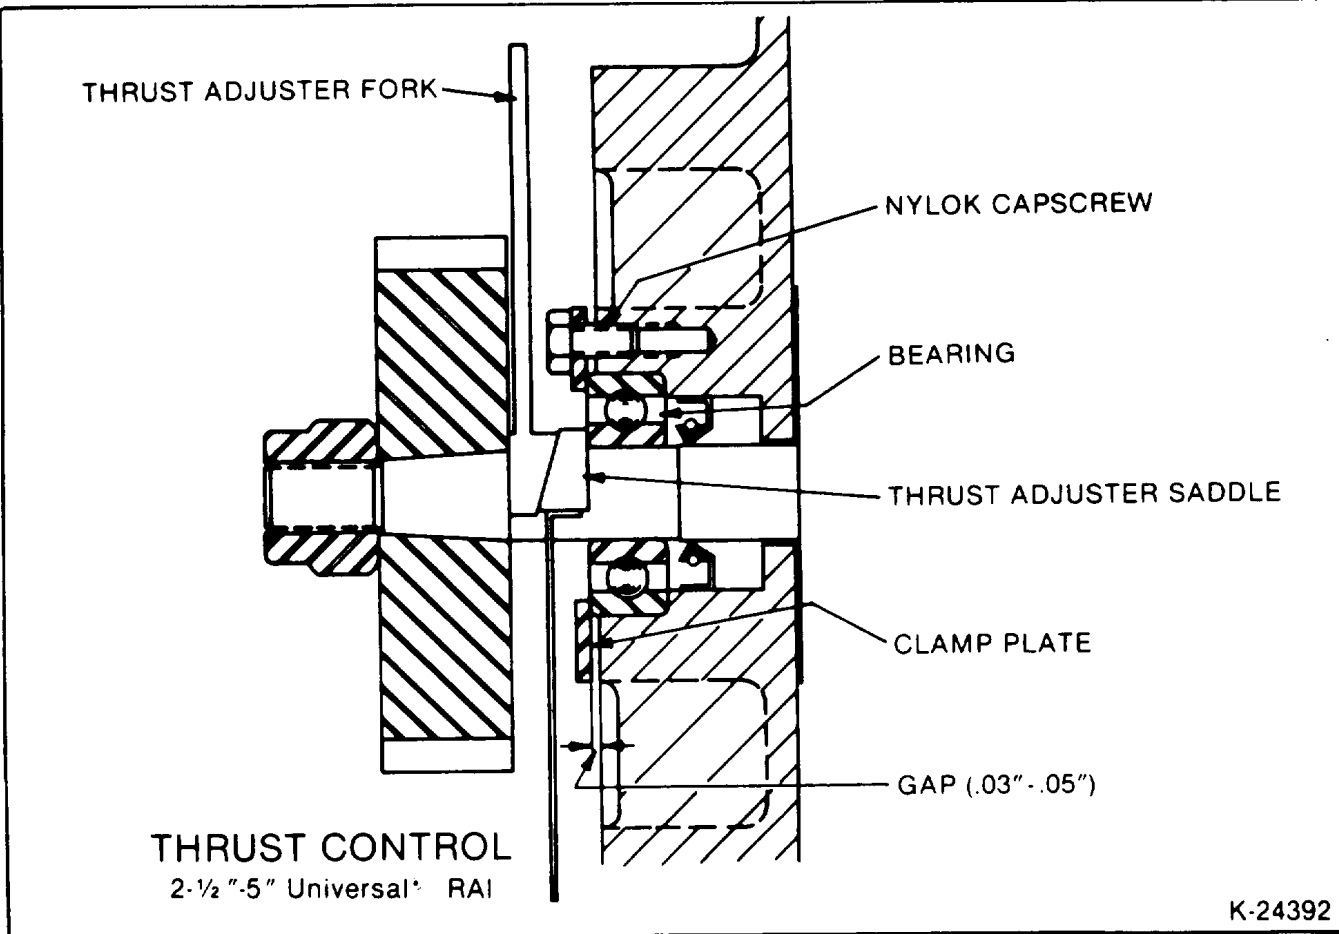
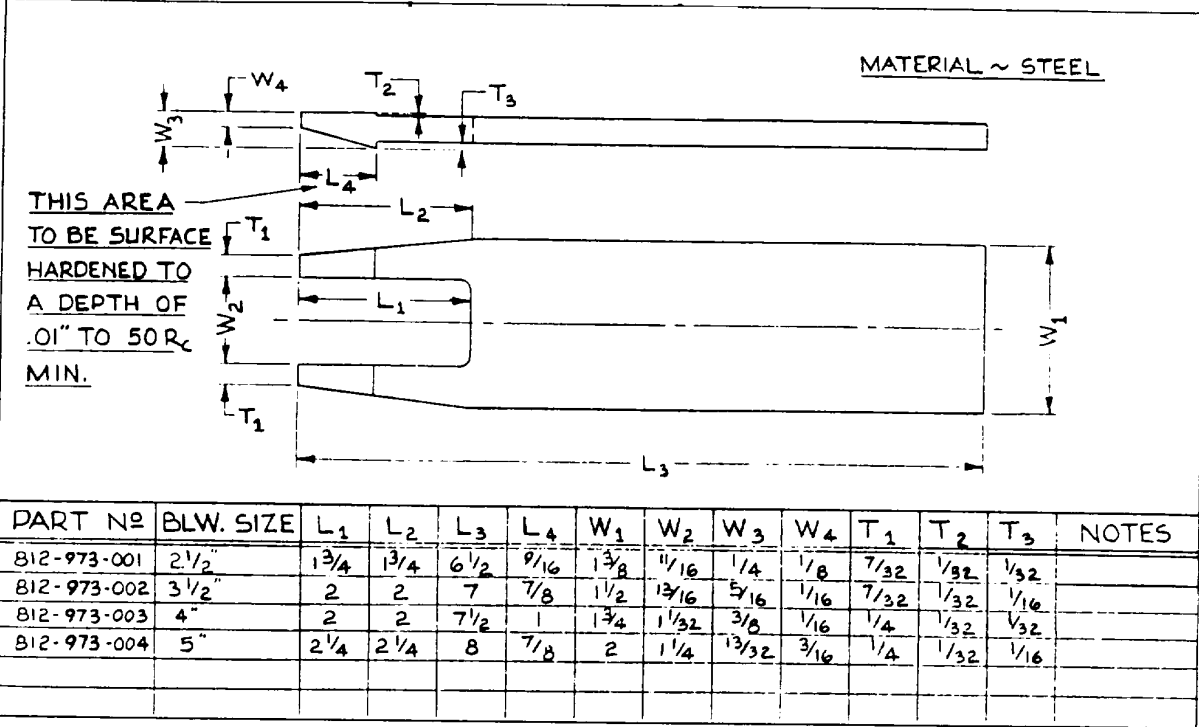
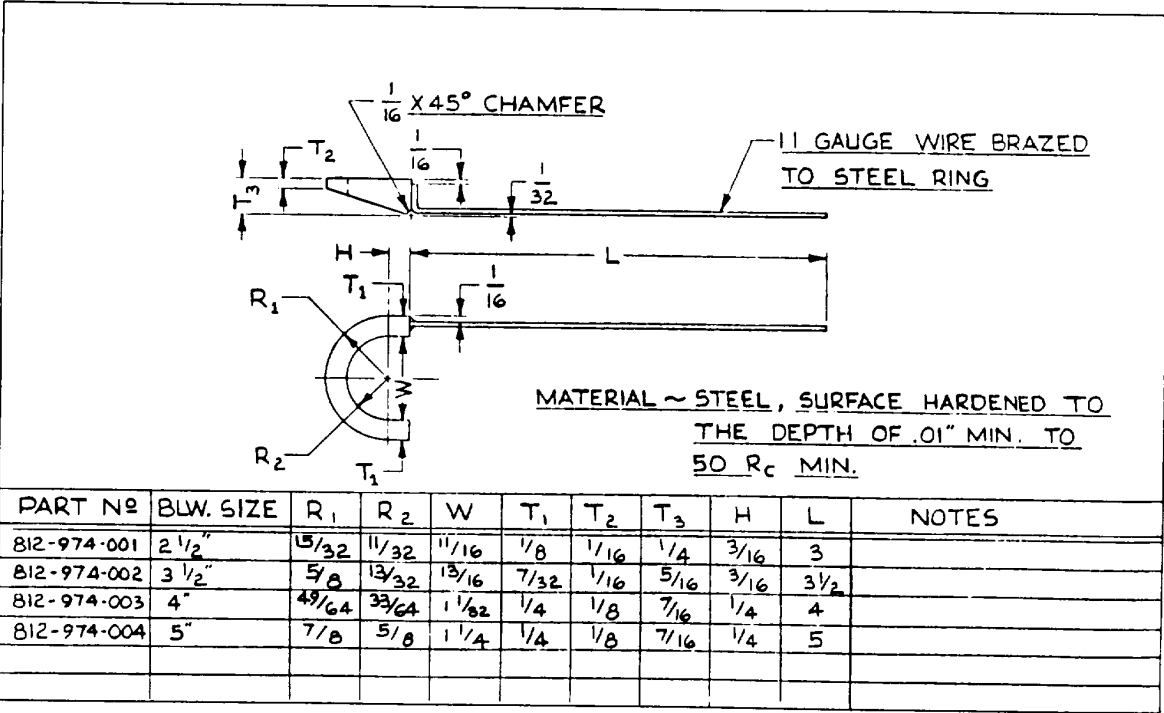

Figure 6 - Thrust Setting, 2 1/2"-5" UNIVERSAL RAI®
Figure 7 - Thrust Adjuster Fork.
Figure 8 - Thrust Adjuster Saddle
11. Place blower on its feet on a flat surface. Loosen feet capscrews (32) and square up unit. Re-tighten capscrews (32). Clamp unit down to a solid base for further assembly.
12. Oil the gear end bearing fits as described previously. Install 2 1/2-5" UNIVERSAL RAI® gear end bearings flush with the headplate bearing shoulders using proper drivers. On 6" & 7" UNIVERSAL RAI®, install thrust washer (29) in bearing bores then install gear end bearings so that they protrude 1/16" (1.6mm) above headplate surface.
13. Install bearing clamp plates (34). On 6" & 7" UNIVERSAL RAI®, impeller end clearances are also to be set during this step. Install clamp plates (34) with capscrews (31) making sure that the gap between the clamp plates and the headplate is even all around, at the same time, set end clearances per Table 5.
14. Install gears and time impellers as in (A).
15. For setting end clearances on 2 ½ - 5" gear diameter units, special tools. thrust adjuster fork Fig. 7 and thrust adjuster saddle Figure 8 are required. Refer to Fig. 6 for installation of tools. The flat side of the saddle rests against the bearing inner race and the flat side of the fork rests against the back side of the gear. Install a shim, with thickness equal to gear end clearance (Table 6), between the impeller and the gear end headplates. Tap on top of the fork until the shim becomes snug. Remove the shim and check end clearances. To increase gear end clearance, tap on the end of the gear end shaft with